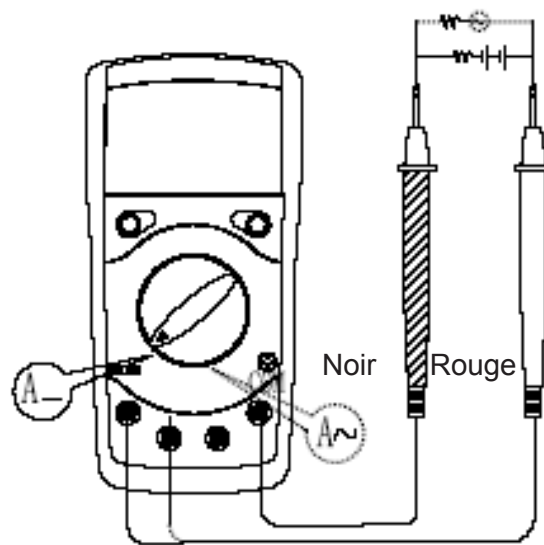

figure 4
C. MESURE DE COURANT CC (VOIR FIGURE 4)